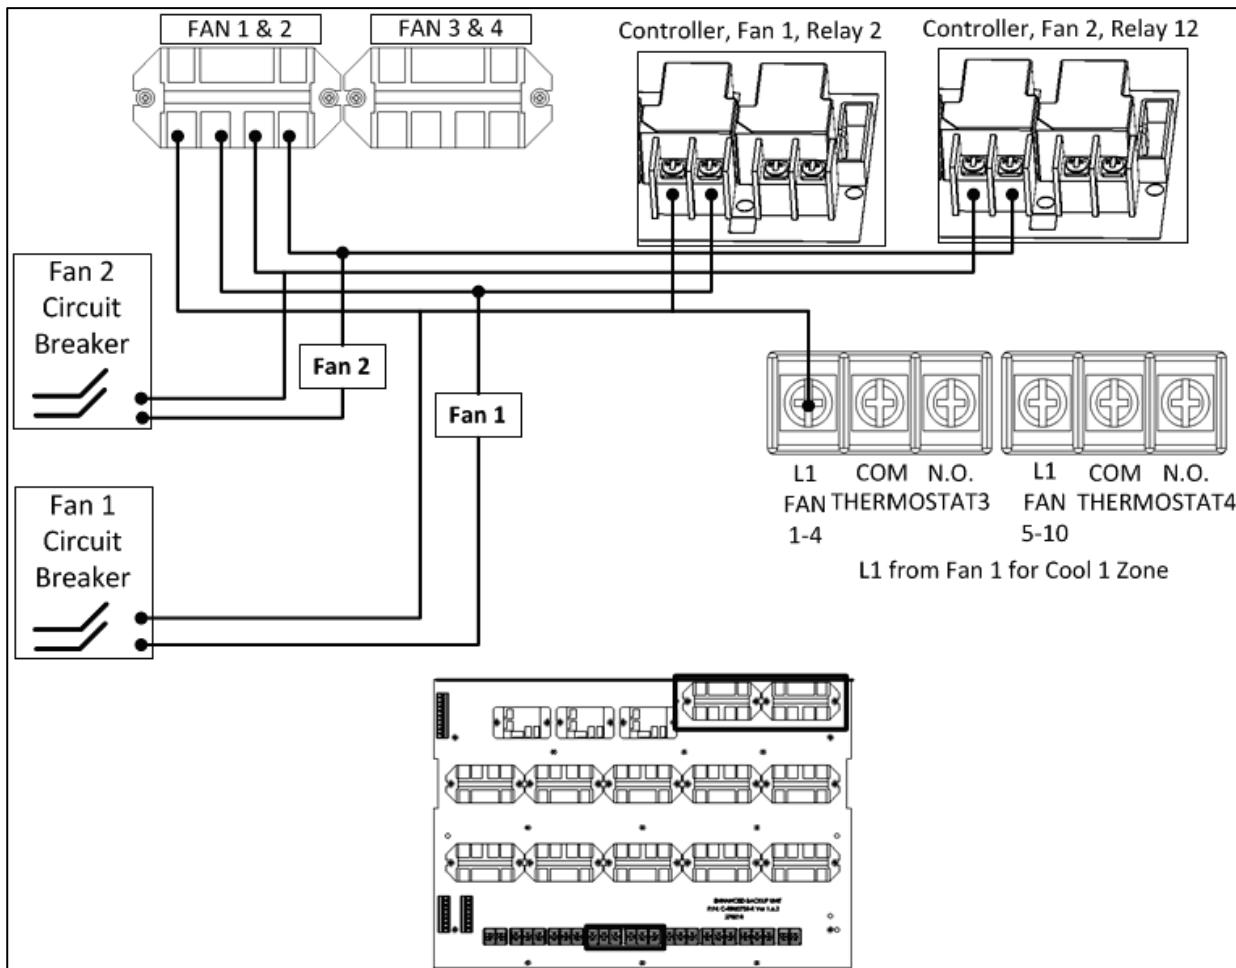
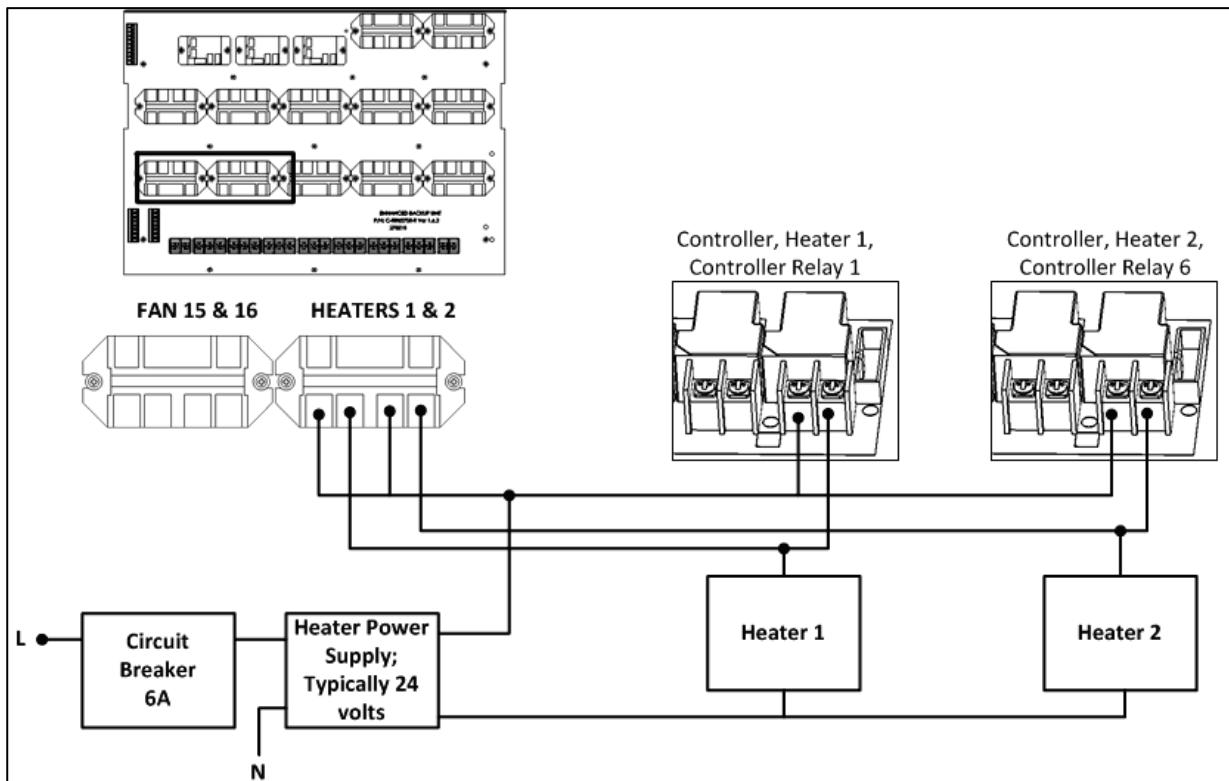
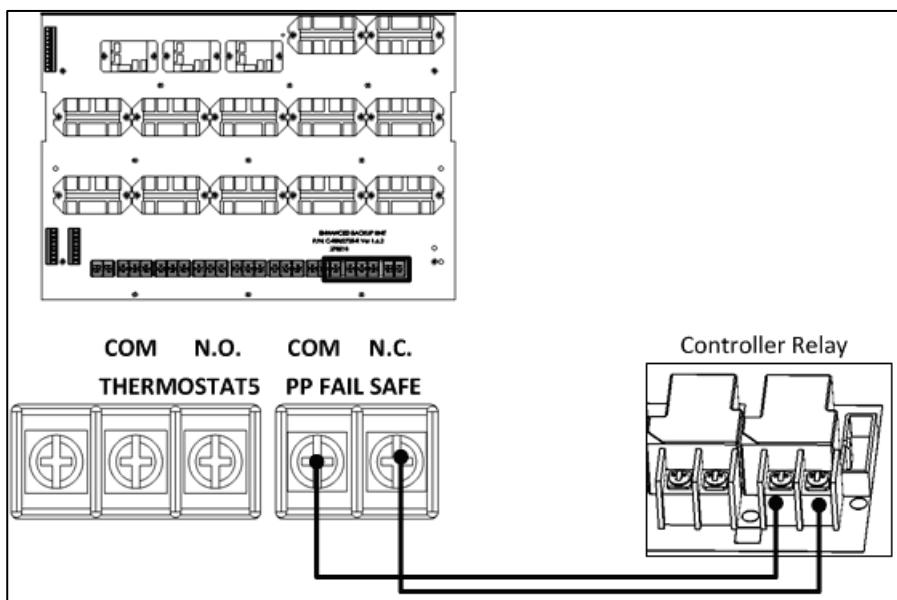

Figure 6: Fan and Cooling Wiring
Figure 7: Heater Wiring
Figure 8: Fail Safe Wiring
- Figure 6: Vent Machine Wiring
- Figure 7: Fan and Cooling Wiring
- Figure 8: Heater Wiring
- **Section 2 - Fans and heater contacts:** Designed to define the relays that active the cool pad, fans, and the heaters. Figure 6, Figure 7, and Figure 8 focus on defining the connections to the controller and other equipment.